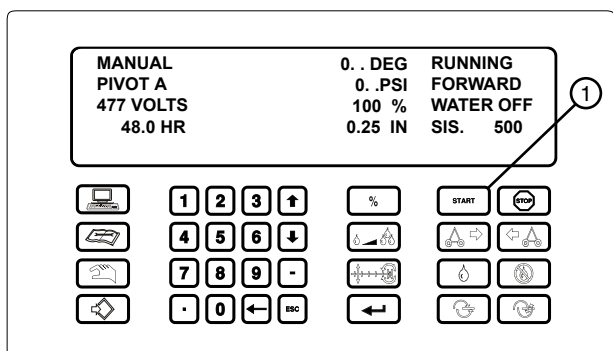

Figure 76-3 1. START key.
7. Press  to start the machine in the pivot mode. See figure 76-3.